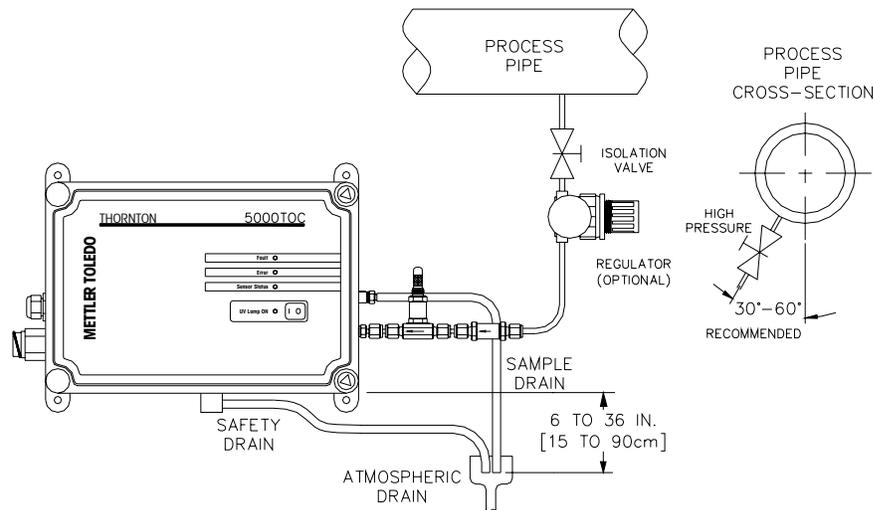

Figure 2. Sample 5000TOC Sensor Installation
- Run the second Polyurethane tubing to an atmospheric drain located close to the sensor. See Figure 2, for dimensional detail of the drain location. **Take note of the 6" (15cm) to 36" (90cm) drain requirement.**
Important! The Polyurethane sample outlet tubing must be fed to a nearby standpipe or drain sump to create an air gap and prevent siphoning. Installation must adhere to the dimensions shown in Figure 2 for proper sensor operation.
For installations with process pressure above 85 psig (5.9 bar), the High Pressure Regulator (p/n 58 091 552) is **required** (see Figure 2). Installation instructions for the High Pressure Regulator are supplied with p/n 58 091 552.